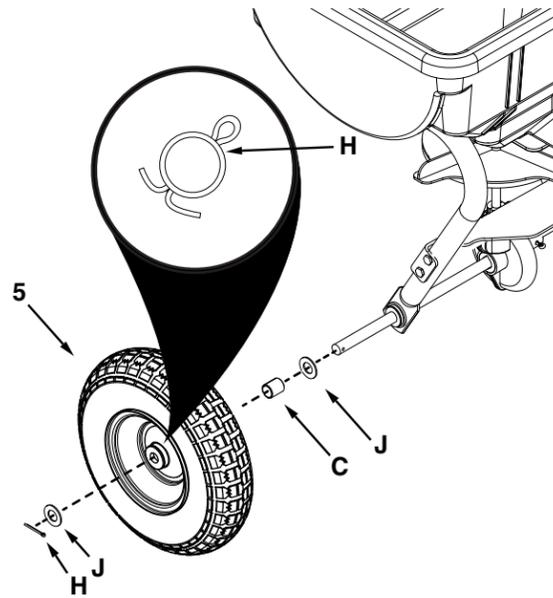

Figure 7
STEP 7 (SEE FIGURE 7): Attach the other wheel by sliding onto the right end of the axle a washer (J), a spacer (C), a wheel (5), and another washer. (J). Secure with a cotter pin (H) by sliding it through the hole in the end of the axle and bending the ends.